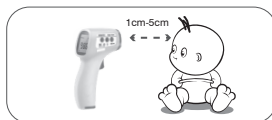

Figure 2: Measuring position and distance
- The thermometer is aligned with the middle of the forehead to measure body temperature (between the eyebrows center it above at the forehead level). Keep the vertical distance, press the On/Scan button, the temperature will display immediately, see Figure 2.
Measured over the distance:1-5 cm(0.4-2in) Incorrect test position.	Optimum measurement distance is 1cm See figure 2 measuring position and distance